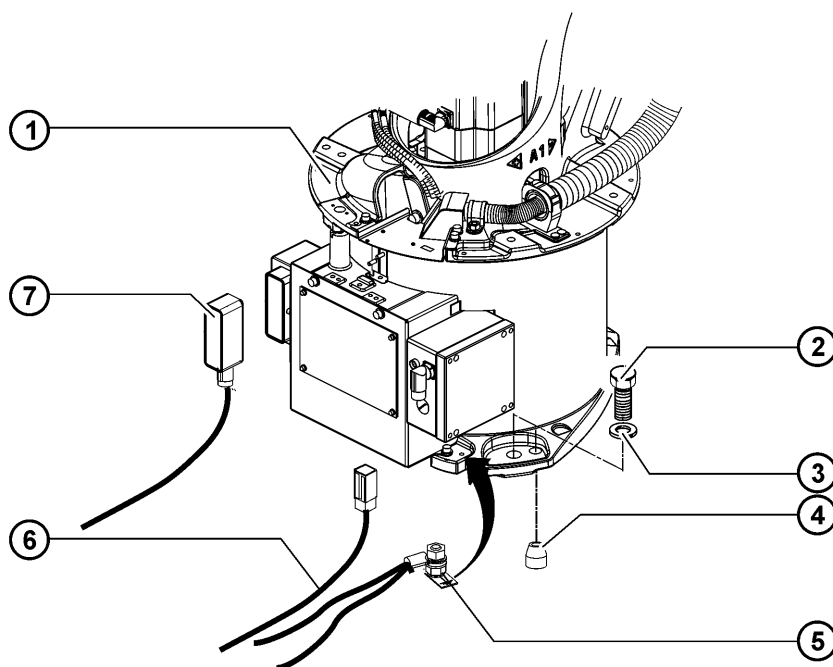

Fig. 8-6: Installing the robot
1. Check that both locating pins (>>> Fig. 8-6) are undamaged and fitted securely.